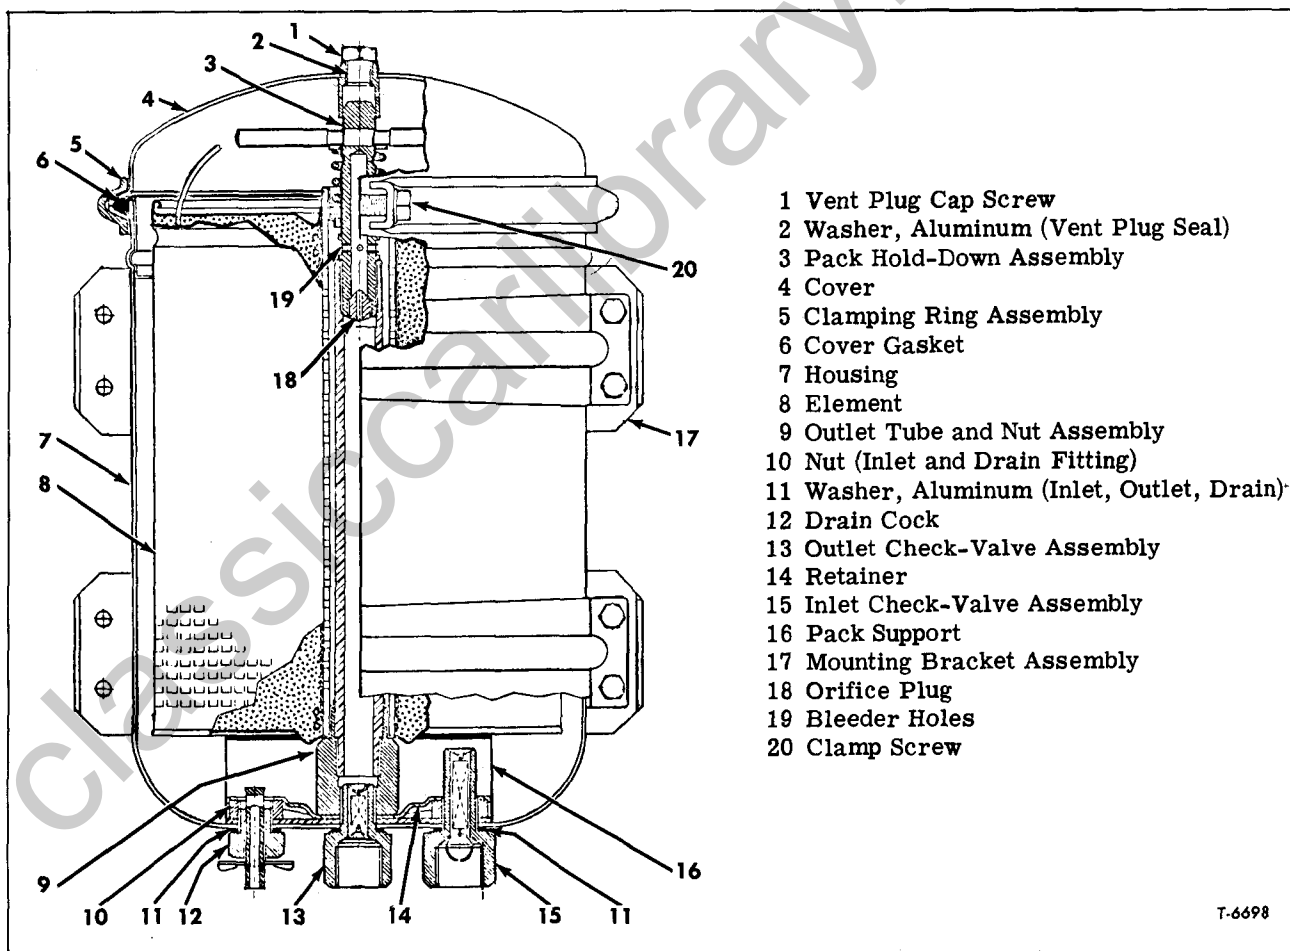

Figure 11—Luber-Finer Unit
The "Luber-Finer" engine oil filter is installed on some vehicles (fig. 11). This unit is used as
ELEMENT REPLACEMENT (Fig. 11)
4. Check orifice and bleeder hole (fig. 11) to see that they are open.
8. Start engine and run at idle. If necessary, run engine until air is bled out of Luber-Finer vent valve (fig. 11). Tighten vent valve and run engine approximately five minutes.